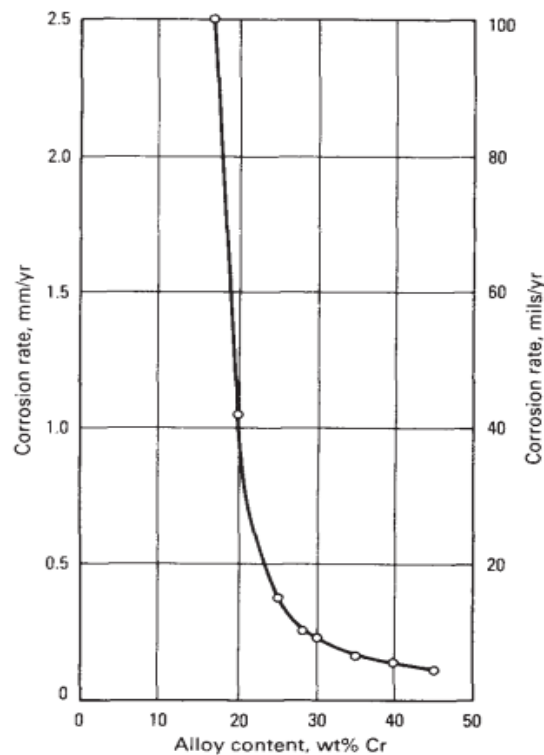

Figure 4 – The effect of chromium content on the corrosion behaviour of iron-chromium alloys in boiling 50% H₂SO₄ with Fe₂(SO₄)₃
- (c). Figure 4 illustrates how the chromium content influences the corrosion rate of iron-chromium alloys in boiling 50% sulfuric acid containing ferric sulfate. Based on Figure 4, discuss the type of corrosion involved, mechanisms and mitigation strategy if an austenitic stainless is reheated in the temperature range of $425 \text{ }^\circ\text{C}$ to $815 \text{ }^\circ\text{C}$.